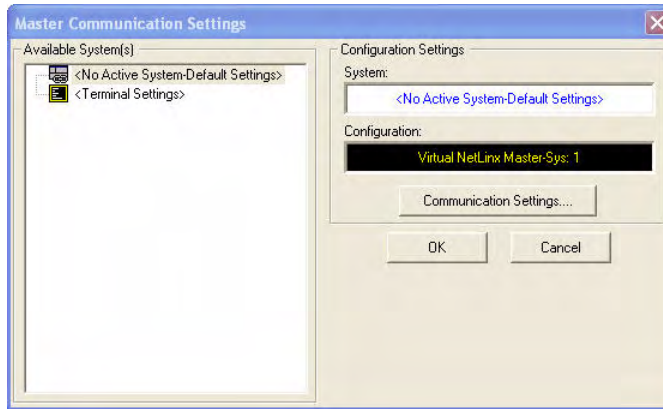

FIG. 13 Master Communication Settings dialog box
2. Select **Settings > Master Communication Settings**, from the Main menu, to open the Master Communication Settings dialog box (FIG. 13).